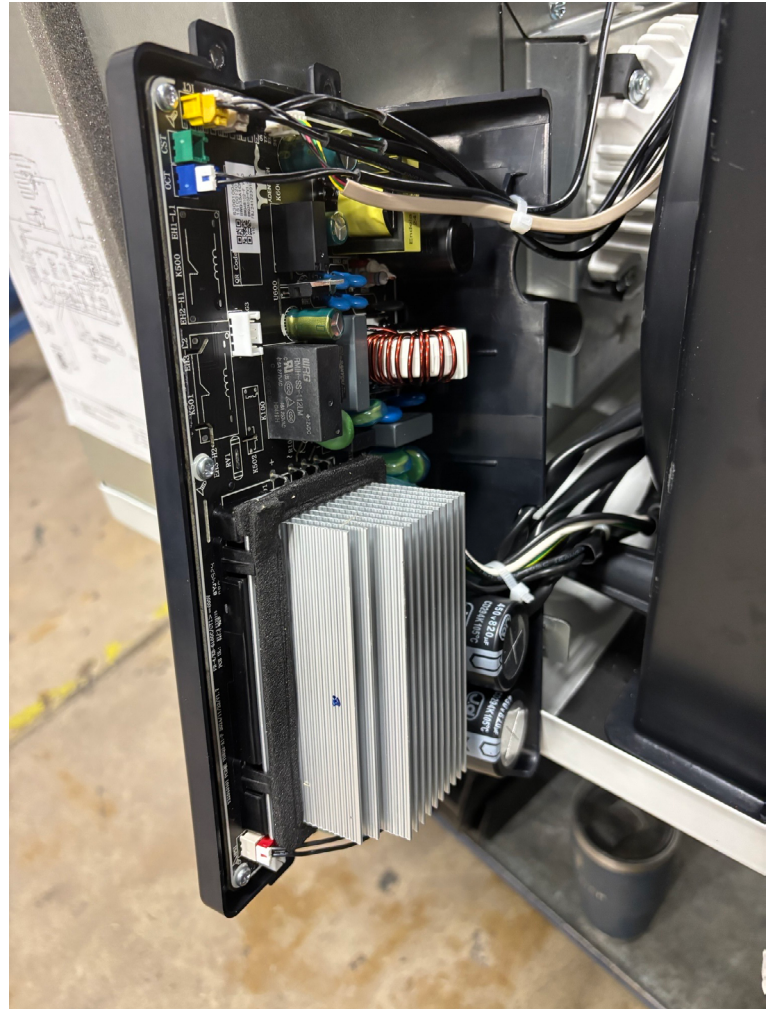

Figure 721
5. Remove cover from pcb assy by depressing the black tabs and carefully flip around to facilitate wire disconnection. Refer to Figure 721..
7. Carefully depress 2 black tabs by squeezing towards the bottom of the interface. Refer to Figure 721. Inspect ribbon cable for obvious signs of damage.